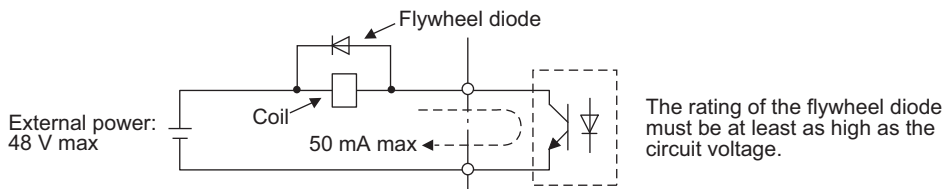

Fig 2.20 Flywheel Diode Connection
* 2. When driving a reactive load such as a relay coil, always insert a flywheel diode as shown in Fig 2.20.